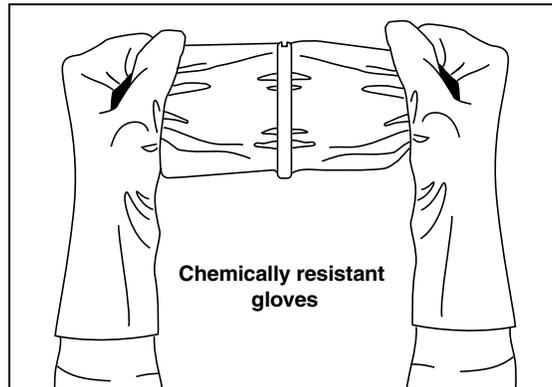

Figure 19. Removing Sealing Compound Clip
- Remove bag of “Sealing compound” from foil package. Grasp the ends, one in each hand, then pull sharply to remove plastic clip [Figure 19].